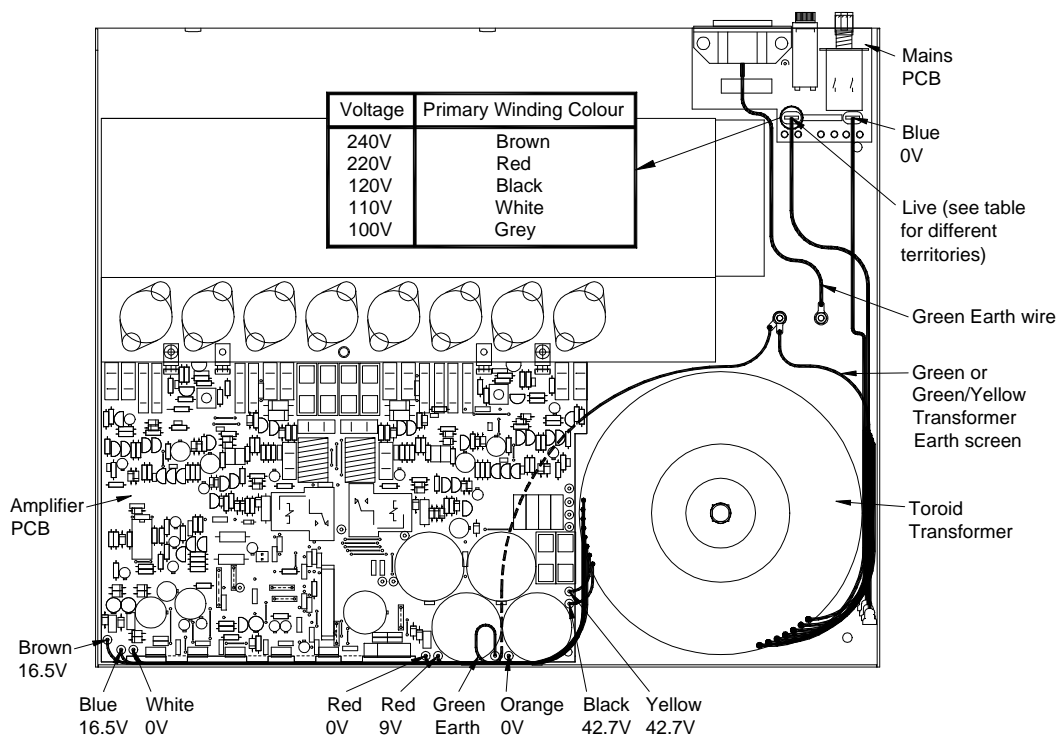

fig.11
- 2) Referring to fig.11, de-solder all transformer wires from the Amplifier circuit board and remove the green or green & yellow Transformer earth wire from the right earth post (see fig.11). Pull off the two transformer wires connected to the Mains circuit board.